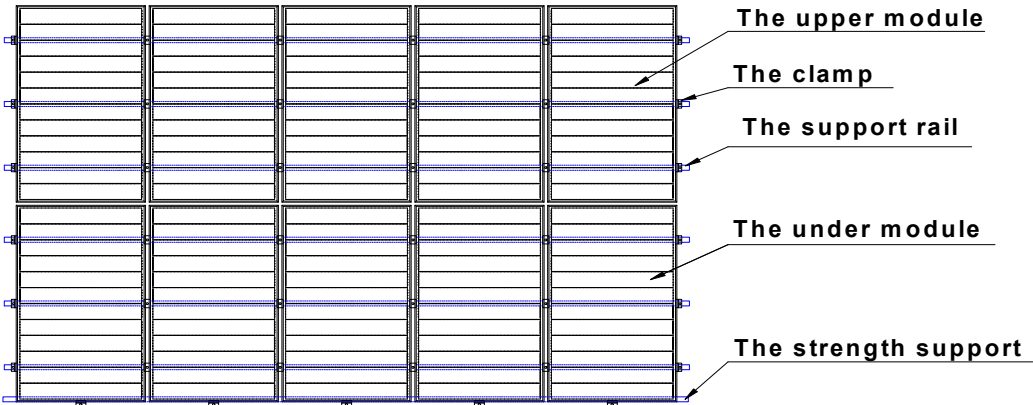

Figure 3 Schematic diagram of reinforcement mounting of module
6.2.1.3 For the roof system installed in the area with relatively heavy snowfall or snow cover in the meteorological records, the installer shall reinforce the supporting system at the lower frame of the module, in order to prevent the lower frame from being pressed and damaged by the falling snow or freezing of the melt ed snow. Bluesun solar suggests selecting the support reinforcing mechanism shown in figure 3.